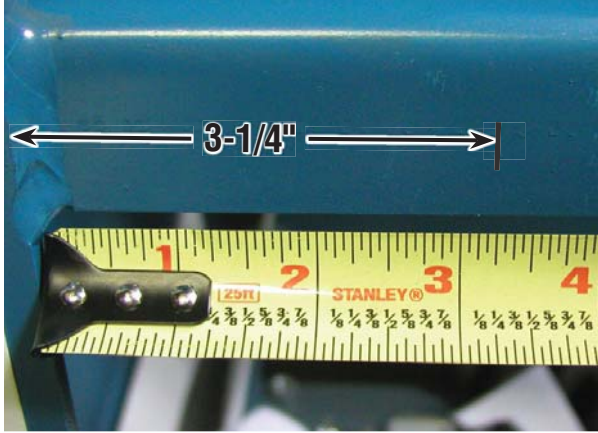

FIGURE 11
12. Mark the location for the first mounting hole on the left, vertical face of the rear spanner 3 1/4" from the end and 5/8" up. See Figures 11 & 12.